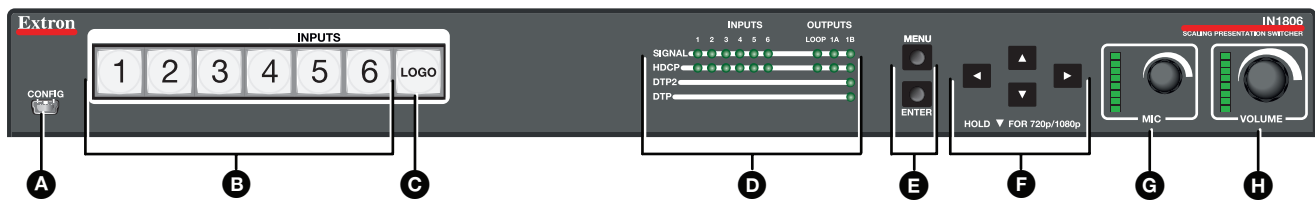

Figure 2. Front Panel Features – IN1806
- For control through USB, connect a host device to the front panel USB mini-B port (see **figure 2, A**, on the next page).